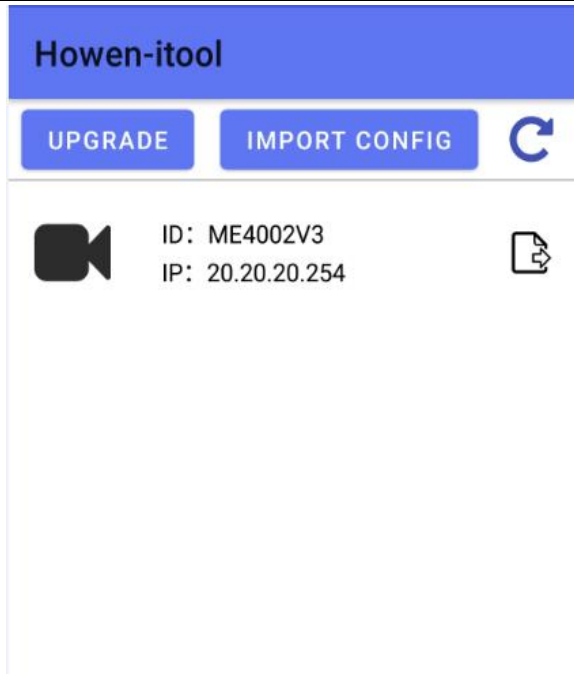

Fig.3.2 Search
Step3: Click the refresh button on the right upper of the screen, it will start searching. (Fig.3.2).